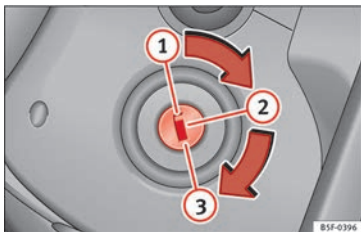

Fig. 177 Ignition key positions.
In this position » **Fig. 177 ①** the ignition and the engine are off and the steering may be locked.
- Turn the ignition key to the starting position » **Fig. 177 ③**.
- Turn the ignition key to position » **Fig. 177** . The warning lamp  will light for engine pre-heating.
- Turn the ignition key to position  **Fig. 177** .